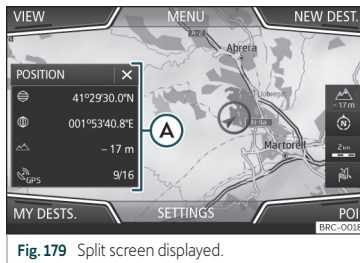

Fig. 179 Split screen displayed.
The split screen »» Fig. 179 (A) may display any of the information described below: